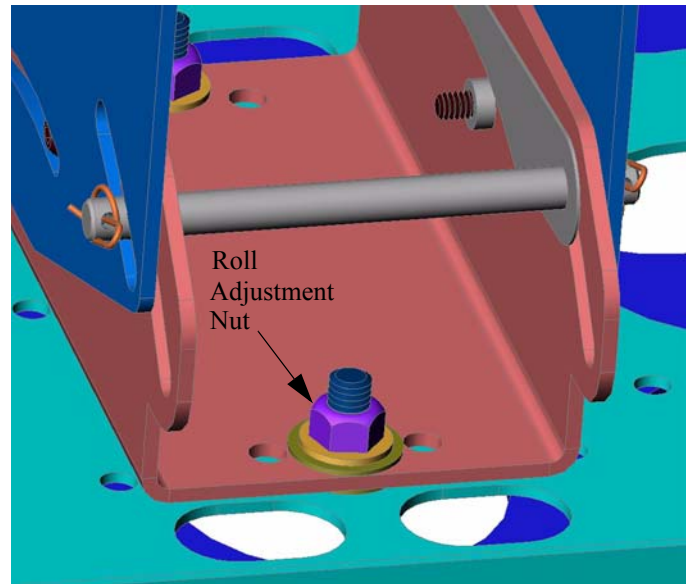

Figure 10. Adjust Roll
1. Loosen the two 3/8-16 Nylock nuts (see Figure 10).